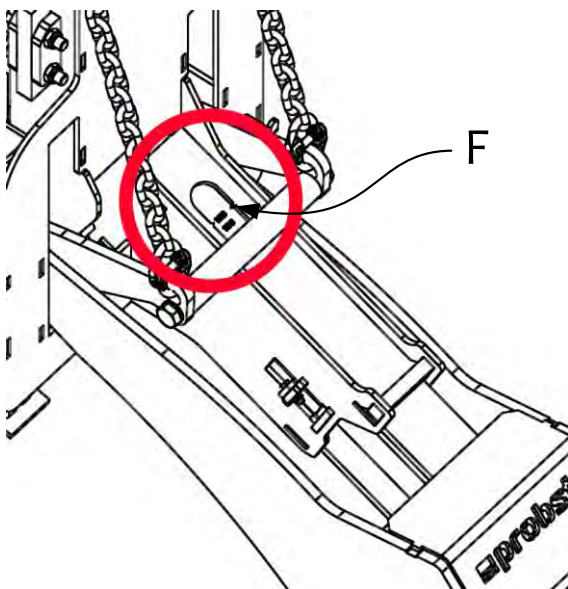

Fig. 4
The set pipe diameter must be read off the viewing window (F) on both sides of the device (Fig. 4). This setting value must be exactly in the area of the two opposite notches ($\rightarrow\leftarrow$) (Fig. 5).